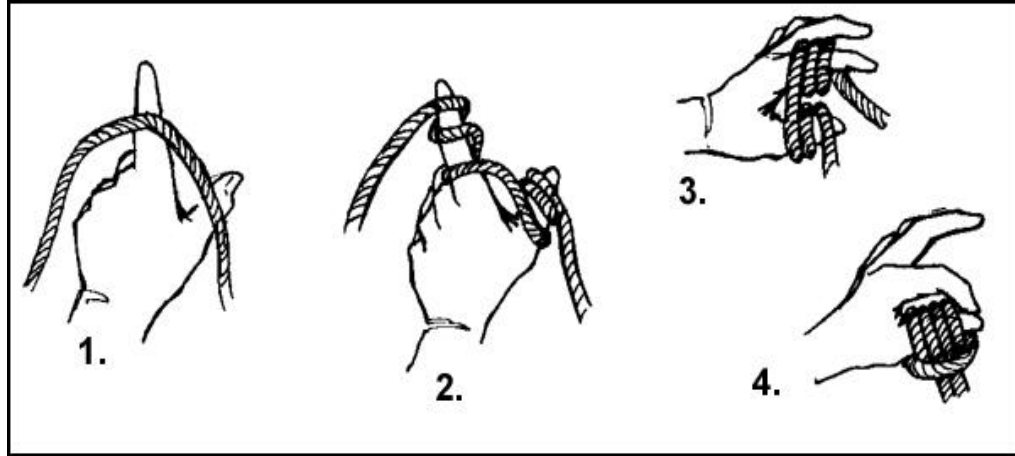

Figure 1-19. Finger prusik knot.
(2) *Second method.* Another way of tying the prusik knot is the finger prusik (Figure 1-19).